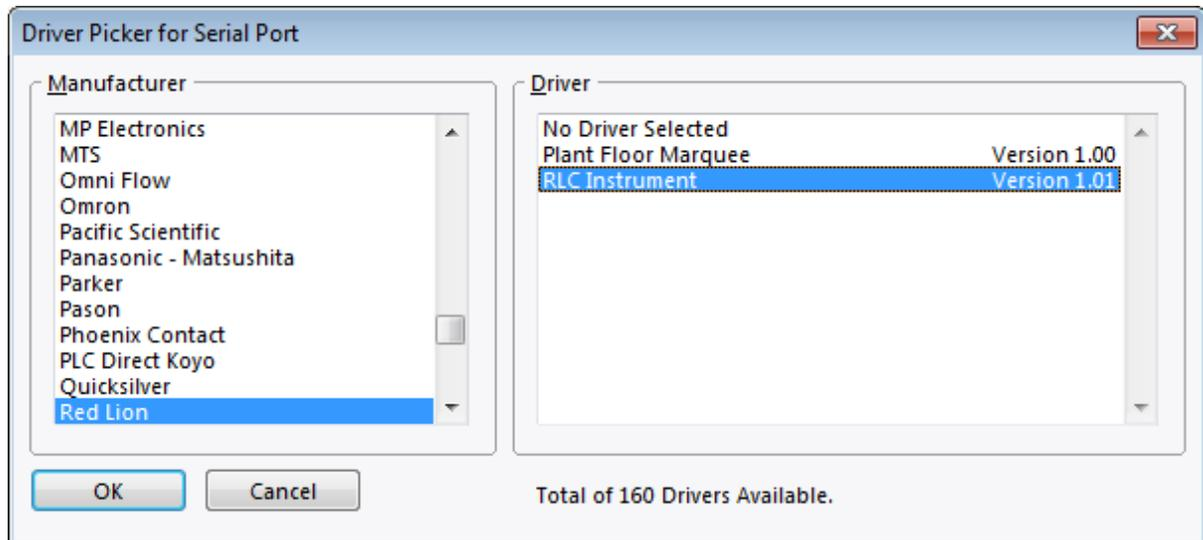

Figure 1.
2. Click *Pick*, next to the Driver option; the Driver Picker for Serial Port popup shown in Figure 1 appears.